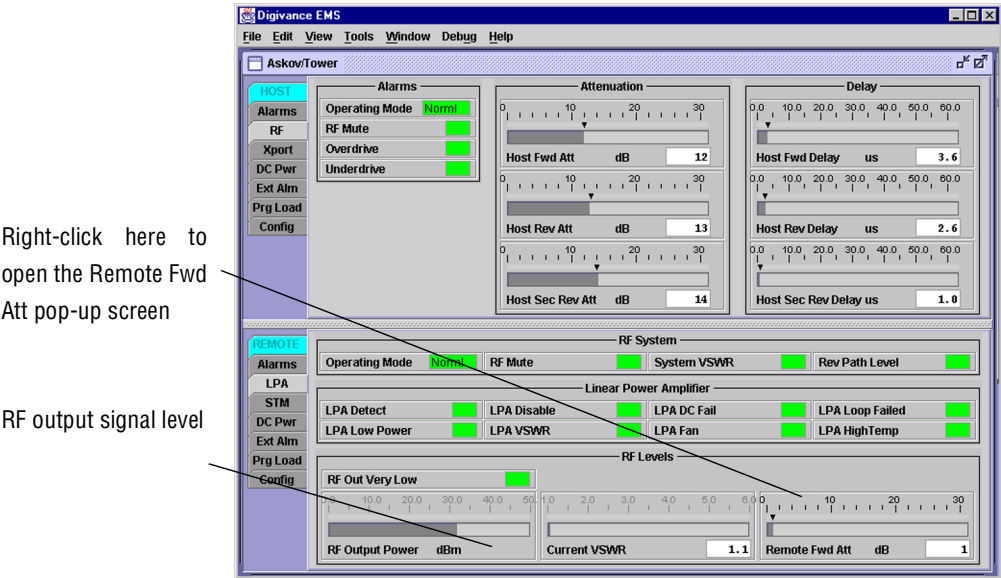
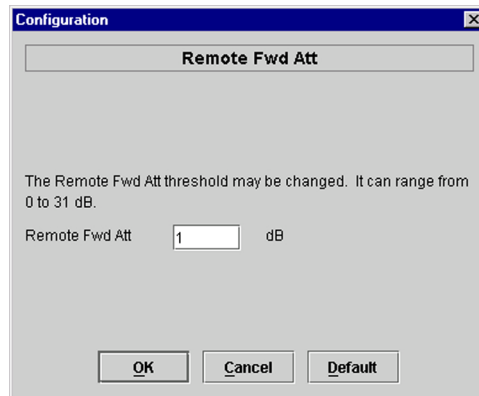

Figure 4-10. REMOTE LPA Display
Figure 4-11. Remote Fwd Att Pop-Up Screen
1. Click on the REMOTE **LPA** tab. The REMOTE **LPA** display will open within the DEMS main window as shown in Figure 4-10.
4. Right-click on the **Remote Fwd Att** section of the display (see Figure 4-10). The **Remote Fwd Att** pop-up screen will open as shown in Figure 4-11.
6. Verify that the appropriate RF output signal level appears in the **RF Pwr-VSWR Low** section (see Figure 4-10). This is primarily a reference value and should not take the place of external test equipment when determining the power level of the composite RF output signal. Depending on the modulation type and number of channels, the DEMS software may report a power level that is higher or lower than the actual RF output signal.